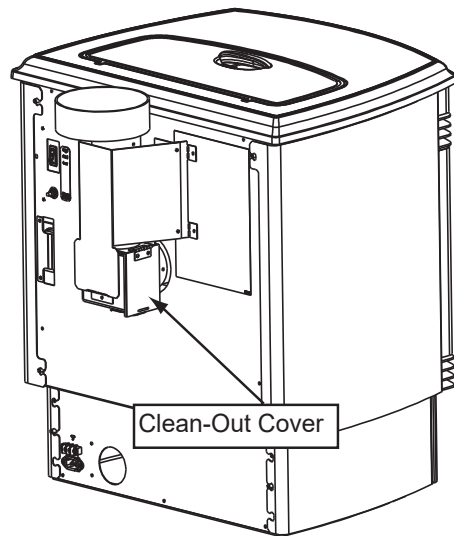

Figure 22.1
- b. Open the clean out cover (**See Figure 22.1**).